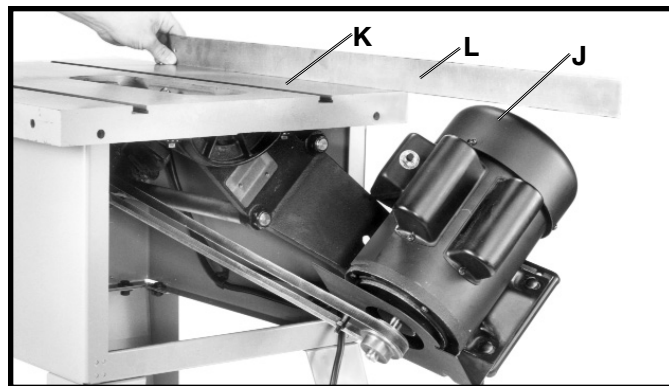

Fig. 25
9. **⚠ WARNING** IMMEDIATELY AFTER ASSEMBLING THE BELT, RAISE THE SAW BLADE TO ITS MAXIMUM HEIGHT AND TILT THE SAW BLADE TO 45 DEGREES. USING A STRAIGHT EDGE (L) FIG. 25, CHECK TO SEE IF THE MOTOR END (J) FIG. 25, IS BELOW THE TOP OF THE TABLE SURFACE (K). IF THE MOTOR END (J) IS ABOVE THE TOP OF THE TABLE SURFACE, THE MOTOR MUST BE MOVED TO THE LEFT UNTIL YOU ARE CERTAIN THE TOP (J) OF THE MOTOR IS BELOW THE TOP OF THE TABLE SURFACE. THEN RE-ALIGN THE MOTOR PULLEY TO THE ARBOR PULLEY.